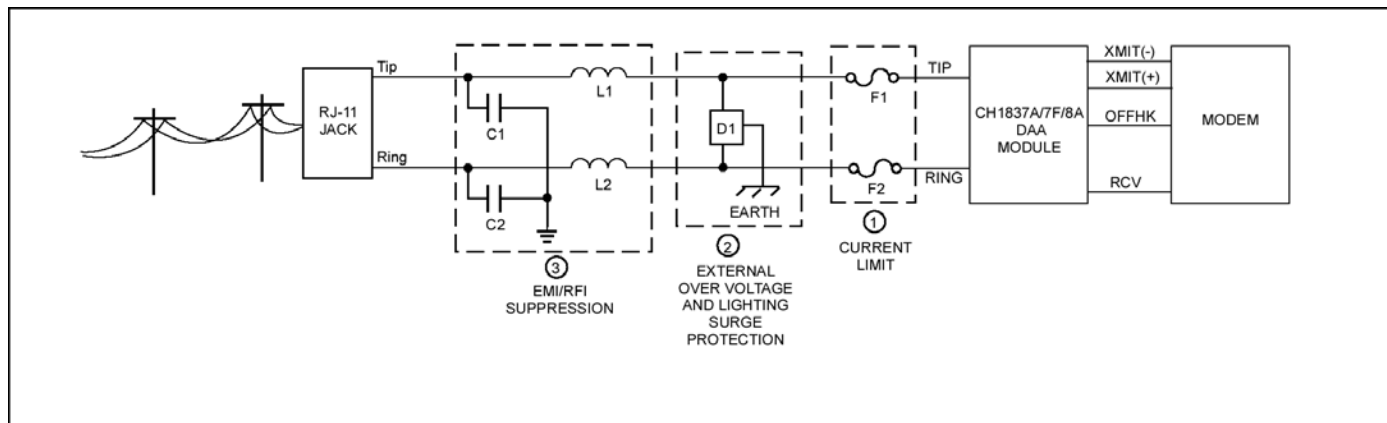

Figure 5. PSTN Line Interface.
The Public Switched Telephone Network (PSTN) line isolation barrier circuitry provides isolation and the required surge and high voltage protection. This circuitry effectively isolates the user's equipment from both the PSTN line and the CO. The CH1837A/7F/8A has been designed to meet both FCC Part 68 (USA) and DOT CSA CS-03 Part I (Canada) isolation and surge requirements when circuited as indicated in Figure 5. Among the more critical parameters, the PSTN isolation barrier will provide at least 1500VAC RMS isolation and 2122V peak surge protection. The CH1837A/7F/8A is also UL1950 Edition 3 listed and meets CSA C222-950 test conditions when connected as indicated in Figure 5.
transient protection is required. Refer to Figure 5 for mandatory additional protection circuitry.
The CH1837A/7F/8A DAA includes circuitry that couples the modem signals to the PSTN line and provides the FCC required voltage isolation and surge protection when circuited per Figure 5 herein. Cermetek offers the following end product design guidelines as suggestions only. These guidelines are intended to facilitate the usage of Cermetek DAA modules and to assist the user with FCC certification of their end product.
Because the CH1837A/7F/8A already meets the FCC requirements for Part 68 registration for High Voltage Isolation and Surge Protection when circuited per the requirements of Figure 5 herein, certification of the end product containing the CH1837A/7F/8A DAA is normally quite simple. The process involves testing the end system for compliance and submitting the test data to the FCC for review.
The CH1837A/7F/8A DAA meets or exceeds the hazardous voltage, surge and leakage requirements of the FCC when circuited per the requirements of Figure 5 herein. Although the FCC and DOT requirements are virtually identical, it is recommended that for applications that connect to Canadian PSTN lines, a Canadian test house/consultant be retained to ensure compliance of the end product.
- B. In most environments, 2 terminal surge suppressors are adequate. For severe environments, use an external 3 terminal device (as indicated in Figure 5) with an earth ground.